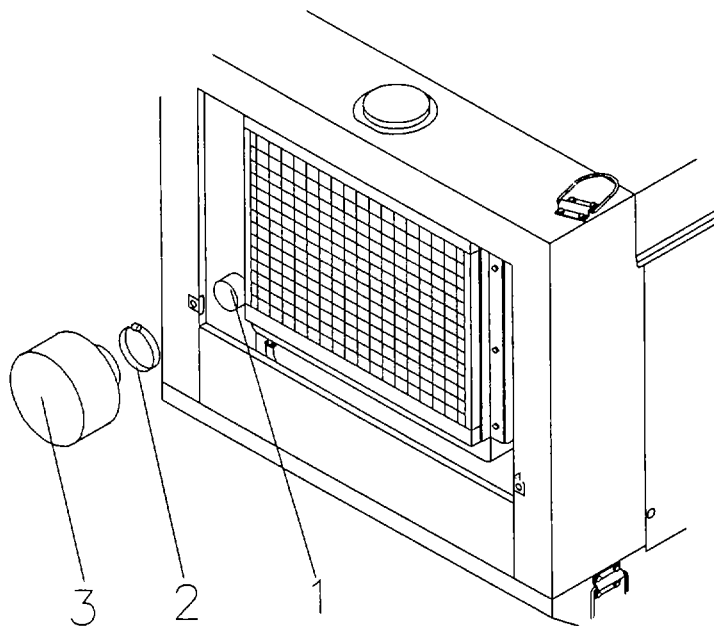

Figure 4-8. Air Filter.
a. Removal. Refer to figure 4-8.
- 1) Loosen clamp (2) by turning screw counter clockwise.
- 2) Remove old filter (3) from intake nipple (1) and discard in accordance with local SOP
- 3) Retain clamp (2).
b. Installation. Refer to figure 4-8.
- 1) Install a new filter (3) to intake nipple (1) Tighten clamp (2) by turning screw clockwise